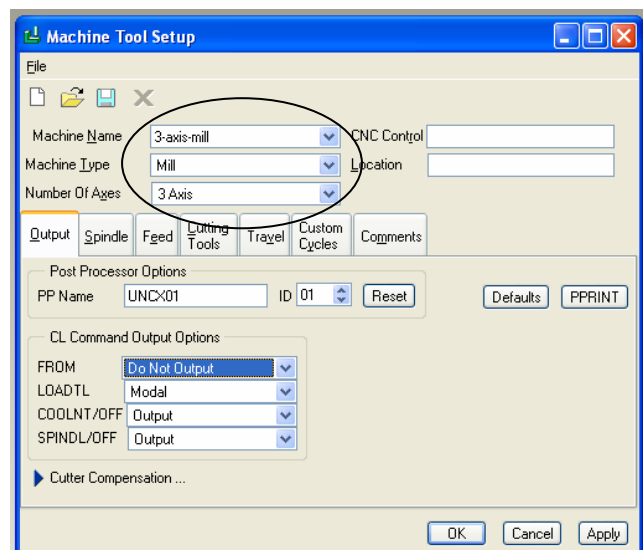

Figure 4a: Machine Tool Setup
The Operation Setup dialog box (Figure 4a) contains the following elements:
Step 3: On the Machine Tool Setup dialog box, enter the parameters shown in Figure 4a.